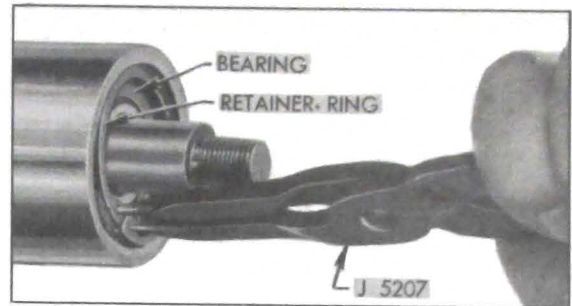
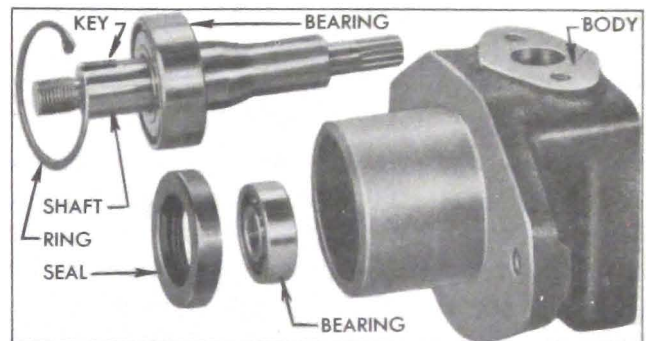

Figure 8-38—Removing Bearing Retaining Ring
Figure 8-39—Drive Shaft, Bearings, and Seal
5. Remove bearing retaining ring, using Ring Compressor J 5207 (fig. 8-38), then press drive shaft and outer bearing out of pump body. Shaft must be pressed through the inner ball bearing which is located in body behind the shaft seal. See figure 8-39.